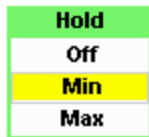

Figure 2-29 Hold pop-up
- 3 Press  to display the **Hold** pop-up, and use the ,  to highlight **Min** or **Max** (see Figure 2-29).